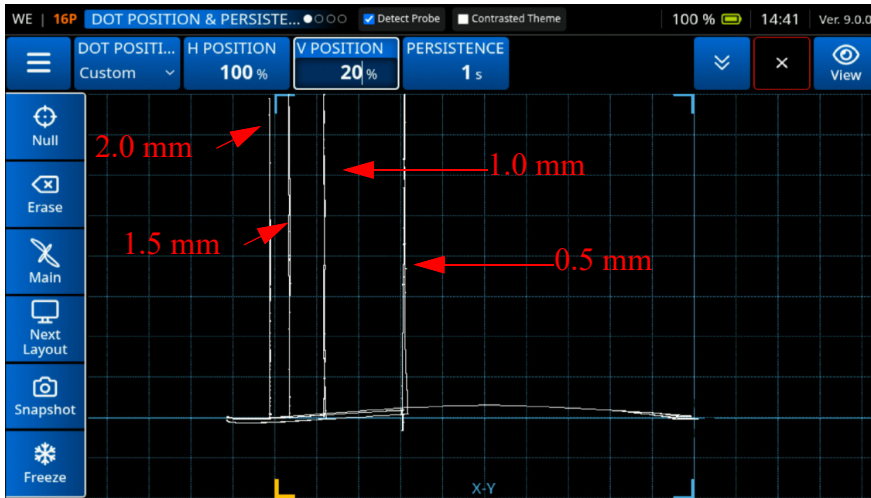

Figure 3-49 Obtain Full Recording
6. Repeat the measurement process for each thickness removing one shim each time (for four shims, that includes 1.5 mm, 1.0 mm, and 0.5 mm) to obtain the full recording (See Figure 3-49 on page 80).